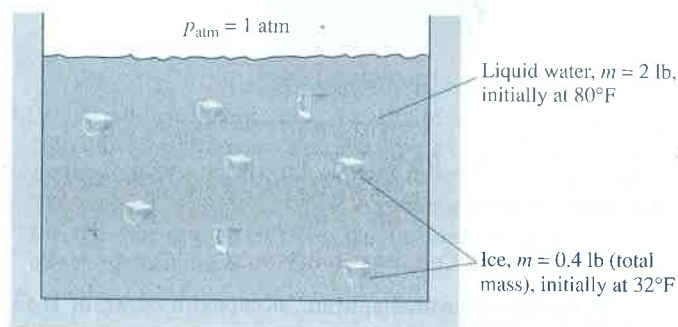

Fig. P3.89
3.89 As shown in Fig. P3.89, a tank open to the atmosphere initially contains 2 lb of liquid water at 80°F and 0.4 lb of ice at 32°F . All of the ice melts as the tank contents attain equilibrium. If no significant heat transfer occurs between the tank contents and their surroundings, determine the final equilibrium temperature, in $^\circ\text{F}$. For water, the specific enthalpy change for a phase change from solid to liquid at 32°F and 1 atm is 144 Btu/lb .